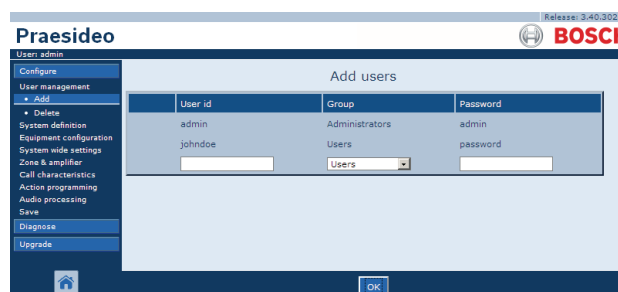

figure 42.4: Add user, step 5
- 5 Click the *OK* button to activate the new account. A screen similar to the one in figure 42.4 appears in the main frame of the web interface.